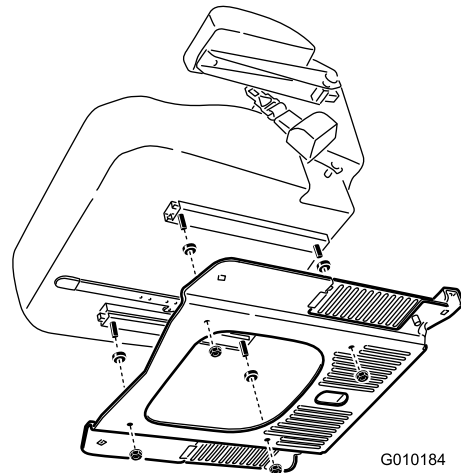

Figure 4
4. Remove the seat plate from the seat by removing the 4 spacers and 4 flange nuts (Figure 4).